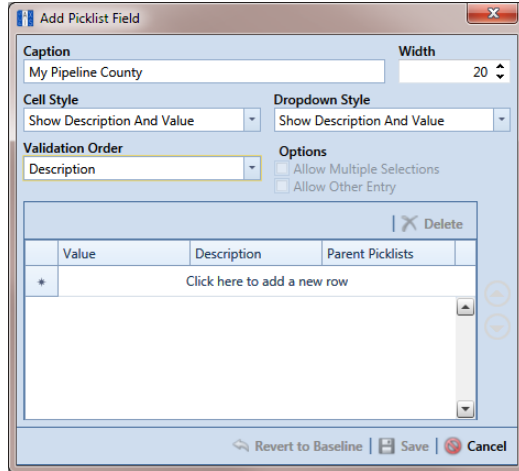

Figure 3-53. Add Picklist Field
- 5 When the dialog box *Add Picklist Field* (Figure 3-53) opens, set properties and add data items for the child picklist in the following manner: